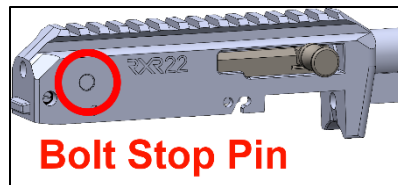

Figure 27
- With an appropriately sized punch, remove the bolt stop pin located at the rear of the receiver – Figure 27.